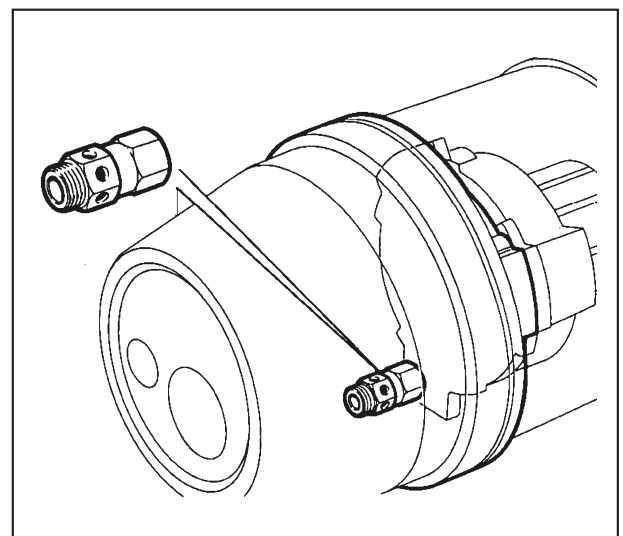

Fig 2.3 - Pressure Control Valve
2.7 Pressure Control Valve (Fig. 2.3)